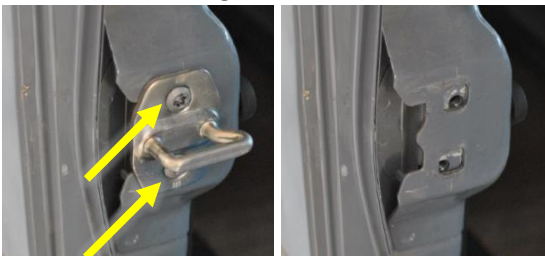

Figure 2: Driver's Side Inside Latch Pin Removal
4. Remove the center latch pin on the inside of the door as shown in Figure 2.